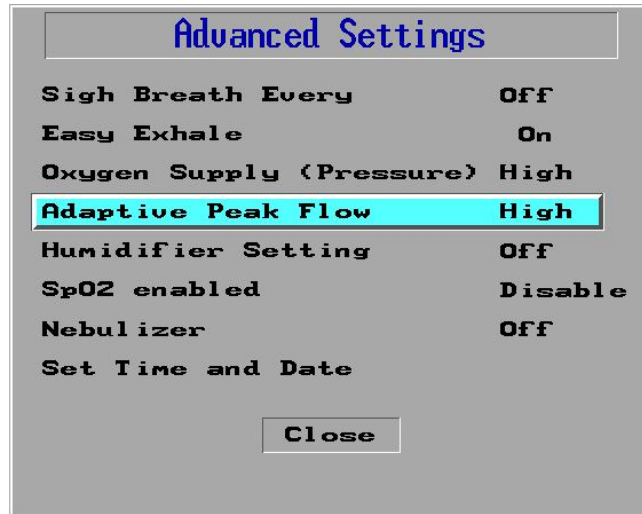

Figure 87: Adaptive Peak Flow Chosen
2. In the **Advance Settings** screen select **Adaptive Peak Flow**. The current status is shown in the right column of the screen (Figure 87).